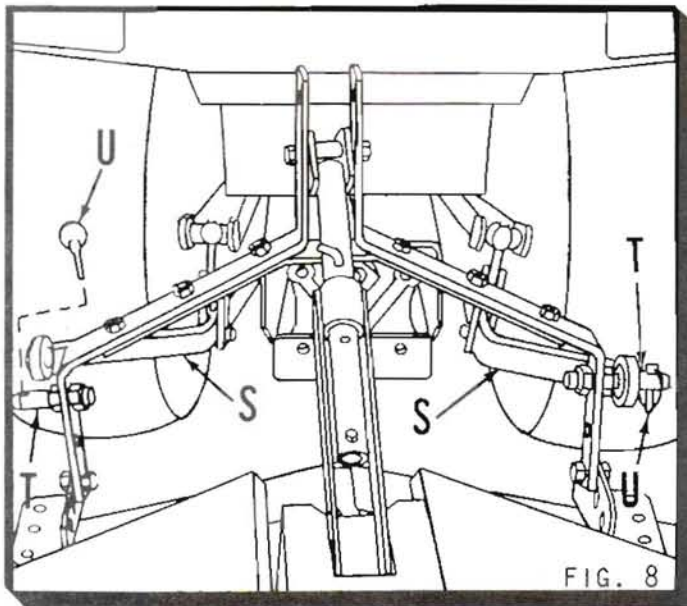

FIG. 8
3. Assemble lower link arms (S) onto hitch pins (T) and secure with klik pins (U). (See Fig. 8)